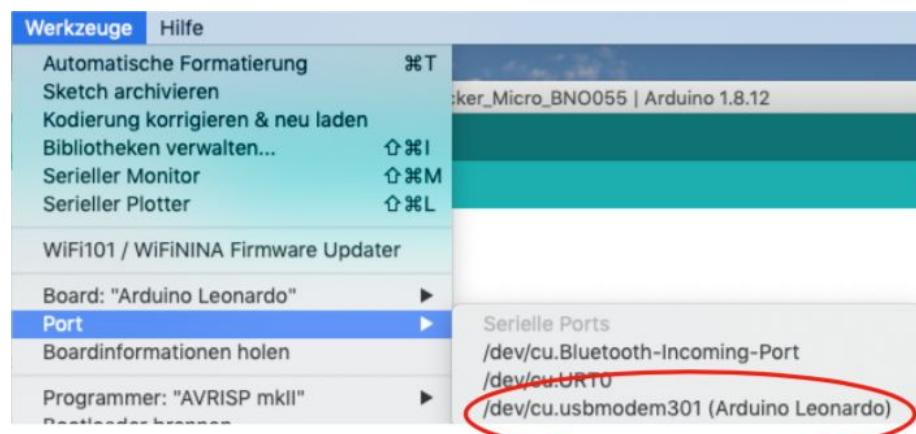

Figure 7: Port “(Arduino Leonardo)”
**Step 9.4:** Choose the belonging Port “(Arduino Leonardo)” in the tools section (*Figure 7*).